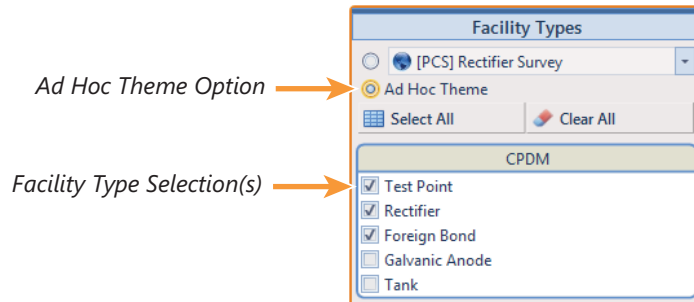

Figure 8-9. Ad Hoc Theme Option
- b To select multiple facility types, click the option button **Ad Hoc Theme** and then click the check box for one or more facility types, such as *Test Point*, *Rectifier*, and *Foreign Bond* (Figure 8-9, page 388).